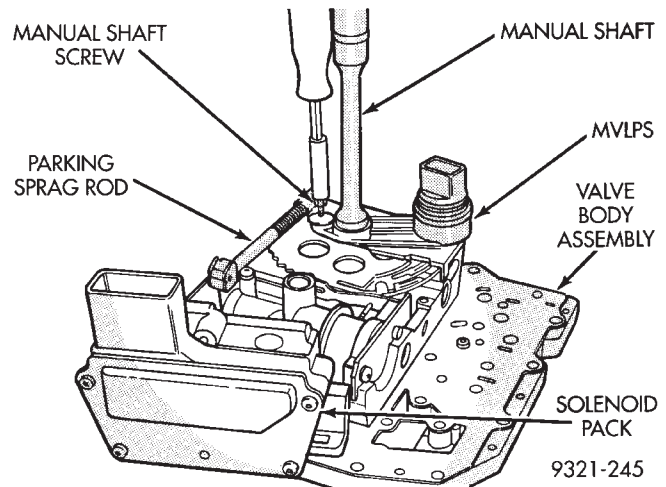

Fig. 38 Manual Shaft Retaining Screw
(1) Disconnect the MVLPS connector.
(2) Remove valve body assembly from vehicle. Refer to Valve Body in this section for procedure.
(3) Remove manual shaft retaining screw (Fig. 38).